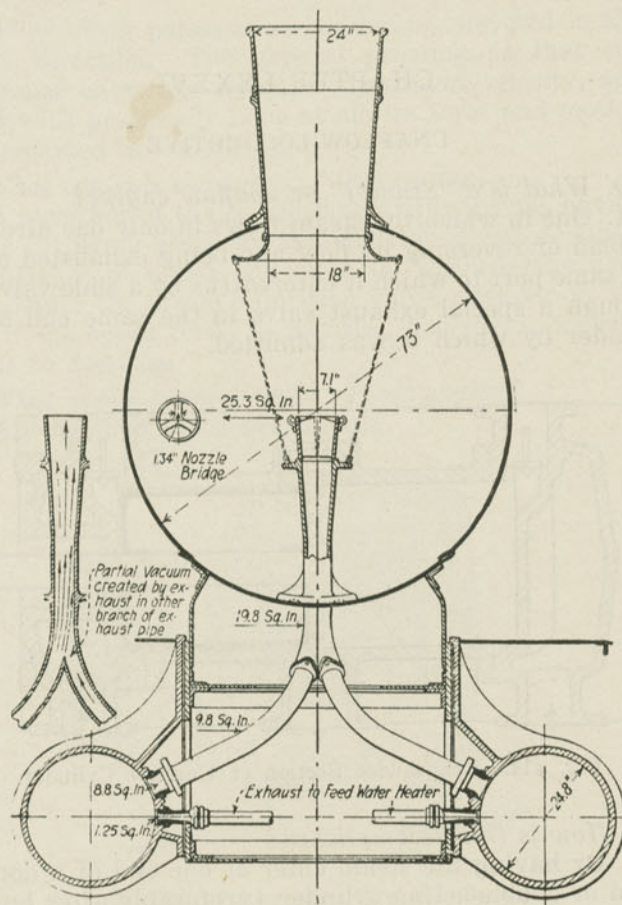

Fig. 415. Uniflow Locomotive Cylinder and Exhaust Ejector Details.
*A. The exhaust pipes are joined at acute angles (see Figs. 415 and 416) so that a jet-ejector action is obtained; because an engine with two cranks and 25-per cent. exhaust lead will produce sufficient overlap of the exhaust periods that the exhaust of one cylinder begins before the other has ceased.*